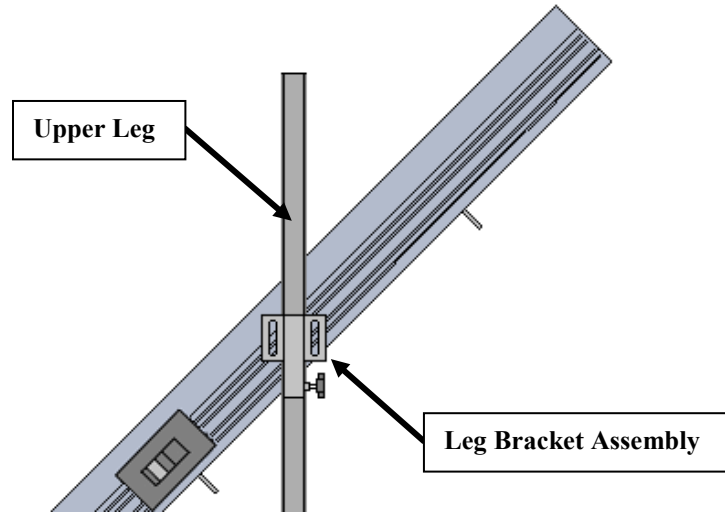

Figure 2- 9
Remove the two (2) bolts from the end of the Side Plate and one (1) bolt from bottom of the Side Plate that secure it to the Motor Plate (Figure 2- 10).